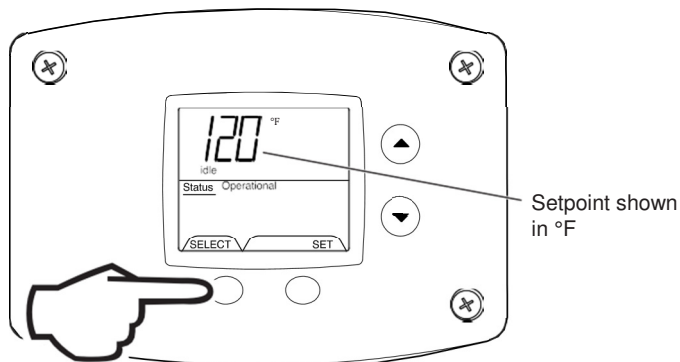

Fig. 61
5. Pressing 'Select' button will return display to setpoint in format selected (°F or °C) immediately (Fig. 61).